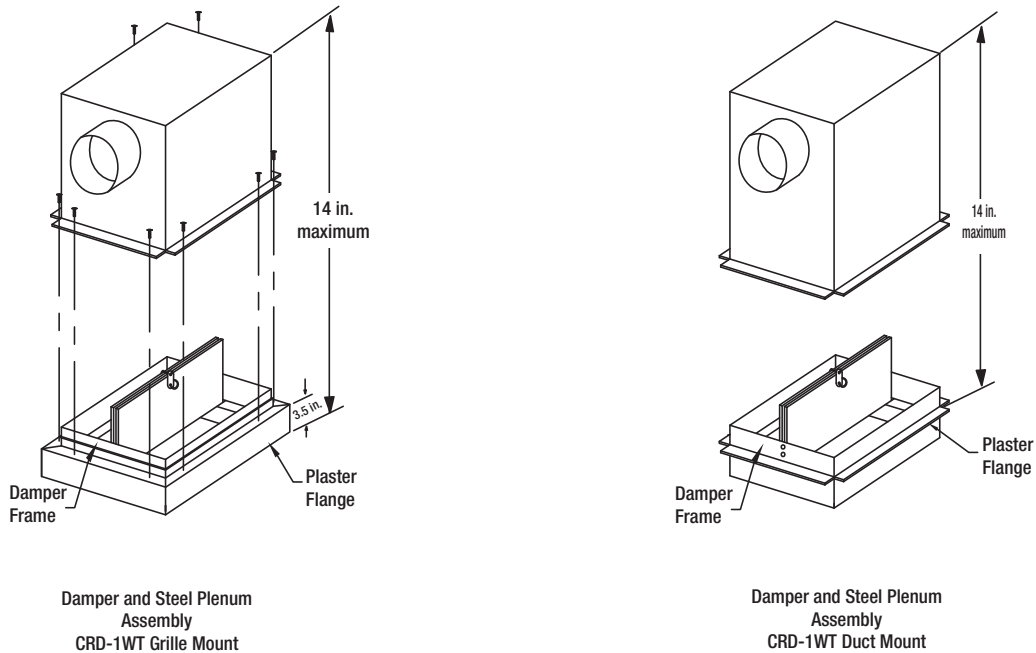

Figure 8
4. The steel plenum box is to be attached to the damper using a #8 screws, 1/8 in. (3mm) rivets, spot welds or tack welds. Minimum of two per side (Figure 8).